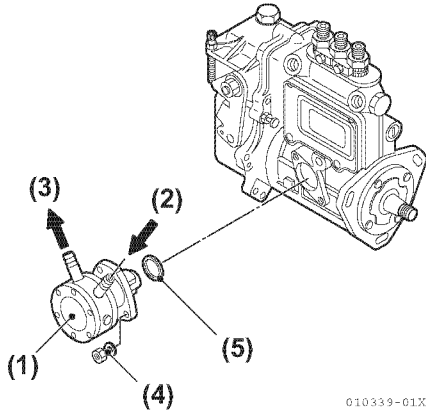

Figure 6-18
4. Remove supply line (Figure 6-18, (2)), (Figure 6-19, (16)) and pressure line (Figure 6-19, (2)), (Figure 6-19, (7)) from fuel feed pump. Install caps or plugs on all open fittings to prevent contamination of the fuel system.
5. Remove bolts (Figure 6-18, (4)) and packing (Figure 6-18, (5)).